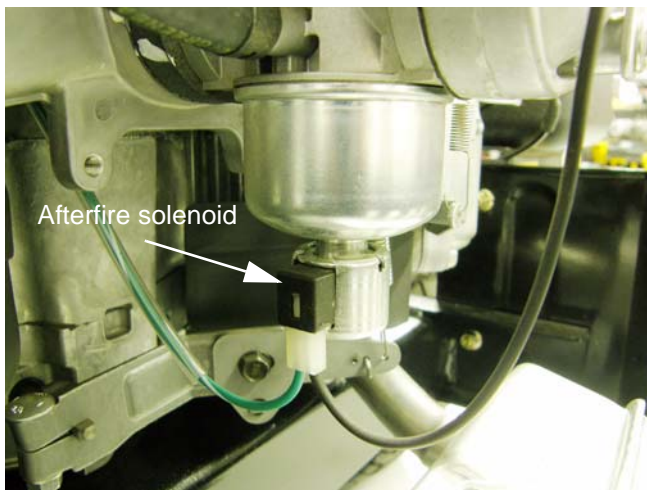

Figure 7.20
2. There is an afterfire solenoid on the carburetor. When it is energized, fuel flows normally through the carburetor. When it is not energized, it closes off the fuel flow through the main jet of the carburetor. The purpose of the solenoid is to prevent unburned fuel from being pumped through the engine after the ignition is turned off. This unburned fuel accumulates in the muffler and may ignite with an alarming noise. See Figure 7.20.